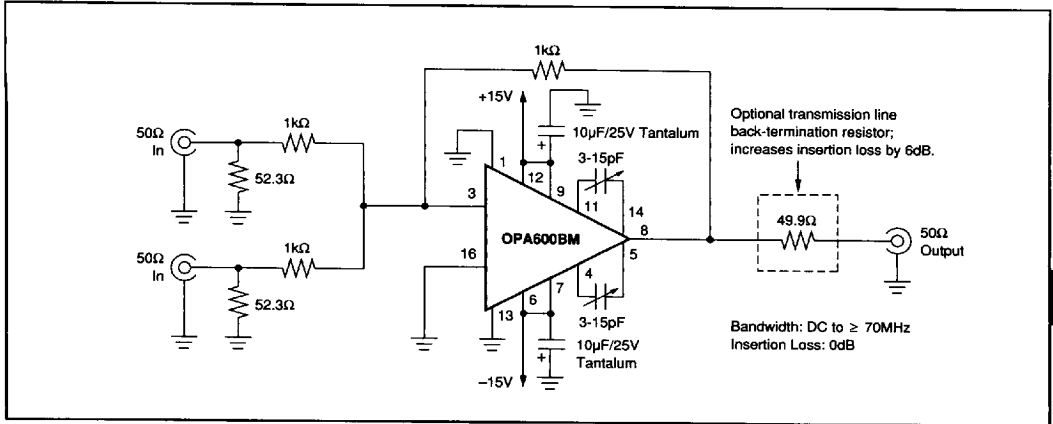
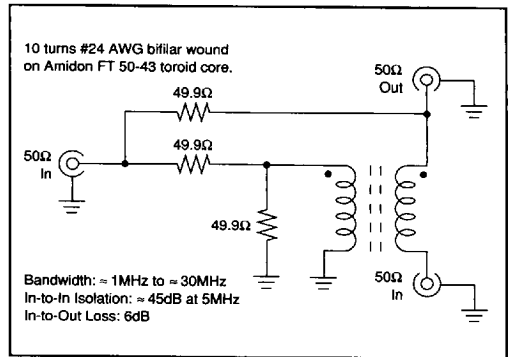

FIGURE 5. Active Signal Combiner.
FIGURE 6. Passive Signal Combiner.
7. Two-tone testing will require isolation between test signal generators to prevent IMD generation in the test generator output circuits. An active summing amplifier using an OPA600 is shown in Figure 5. This circuit will provide excellent performance from DC to 5MHz with harmonic and intermodulation distortion products typically better than -70dBc. A passive (hybrid transformer) signal combiner can also be used (Figure 6) over a range of about 0.1MHz to 30MHz. This combiner's port-to-port isolation will be ≈45dB between signal generators and its input-output insertion loss will be ≈6dB. Distortion will be better than -85dBc for the powdered-iron core specified.